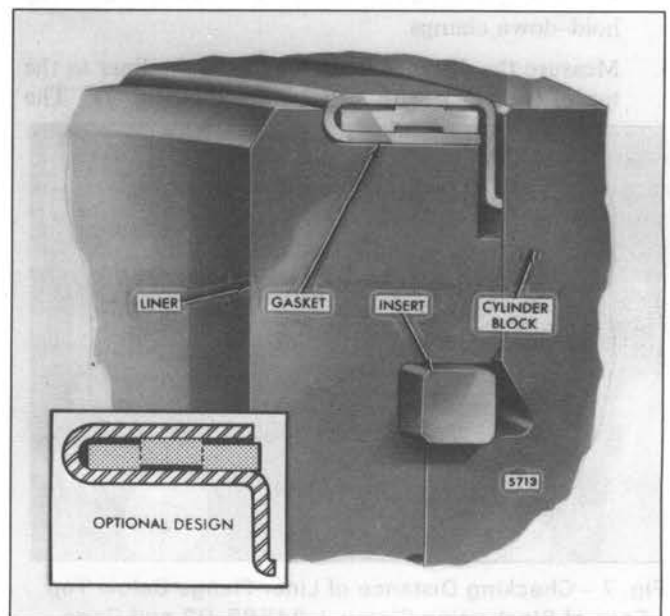

Fig. 6 - Cylinder Liner Mounting in Block
- Place the liner insert (previously tagged) in the counterbore of the block (Fig. 6). Refer to Table 1 for the dimensions and identification of the liner inserts available, if a new liner insert is required.